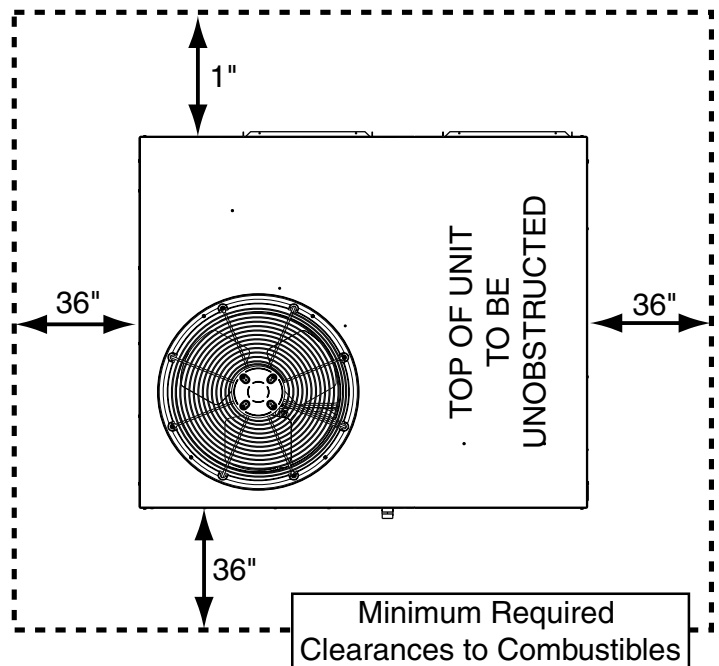

Figure 1. Clearance Requirements
- Install this unit only in a location and position as specified on Figure 1 \(page 5\). This unit is designed only for outdoor installations and should be located with consideration of minimizing the length of the supply and return ducts. Consideration should also be given to the accessibility of fuel, electric power, service access, noise, and shade.
- Provide adequate clearances around the combustion air intake louvers. See Figure 1.
- Sufficient clearance for unobstructed airflow through the louvered control access panel and outdoor coil must be maintained in order to achieve rated performance. See Figure 1 for minimum clearances to obstructions.